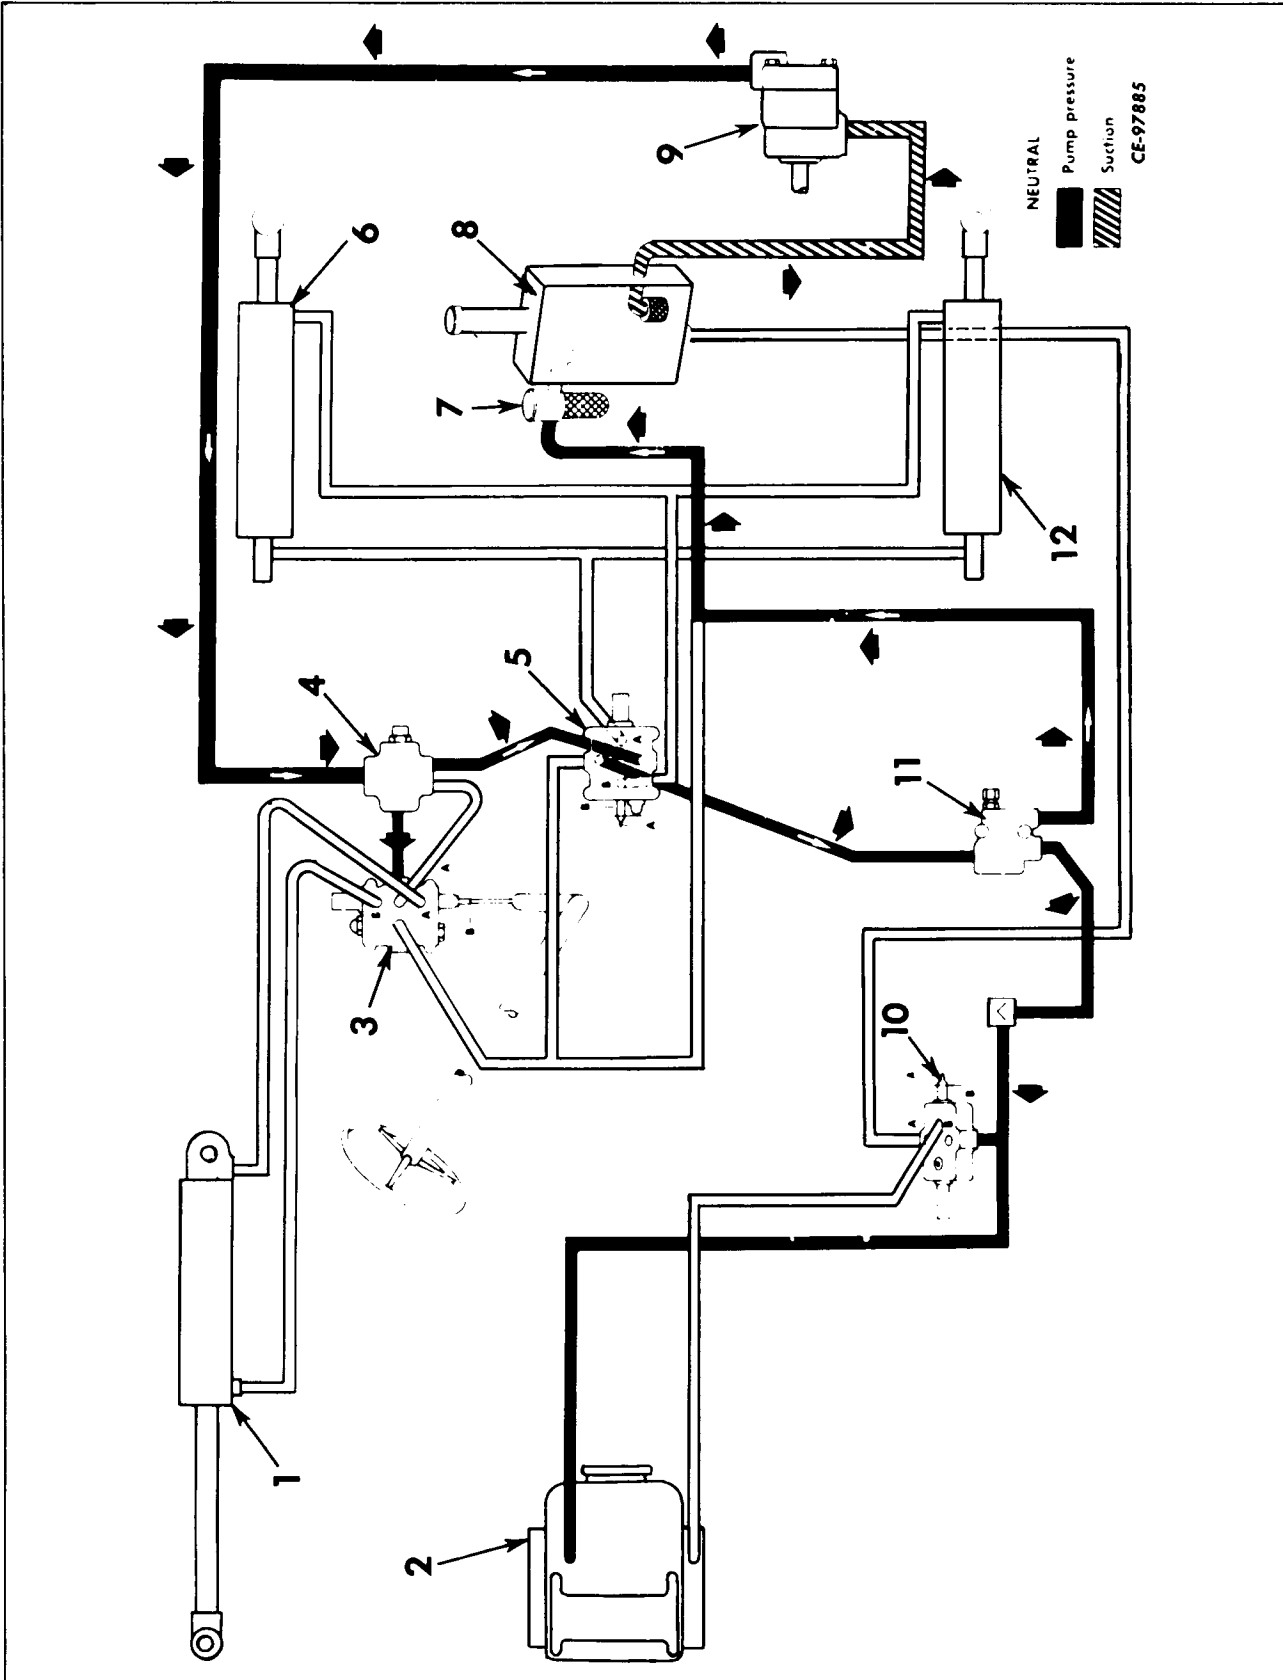

Figure 11-2
Legend for Figure 11-2
The hydraulic system begins with the storage of hydraulic fluid in the reservoir (8, Fig. 11-2). From the reservoir fluid is directed to an engine driven gear pump (9) which produces a flow of oil to operate the steering circuit, dozer circuit and winch circuit.